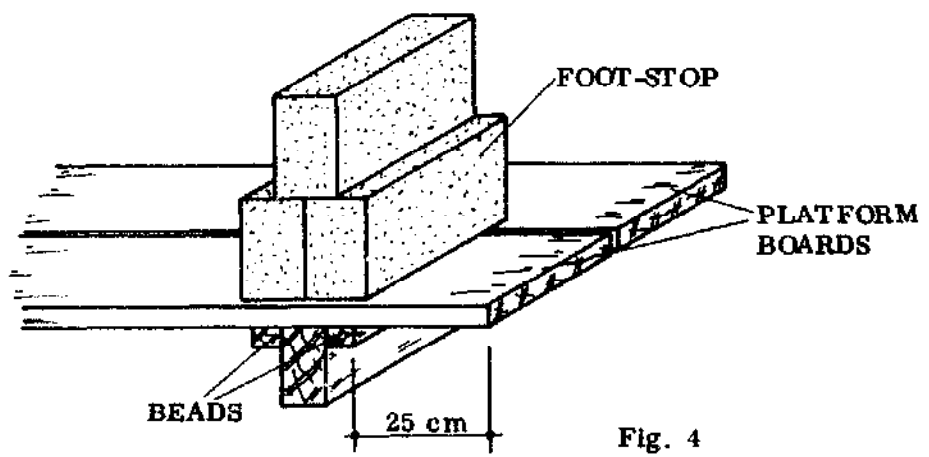

Fig. 4
- Pay attention when you lay the platform boards, so you don't create a scaffold trap. This is a place which looks safe but is not (Figs. 2 & 3). The free ends of the platform must not project by more than 25 cm past the ledge, and they should be blocked off by a foot-stop (Fig. 4).
- Beads can be attached to the bottom of the platform boards to prevent them from shifting along the ledges (Fig. 4), or the platform boards can be nailed directly to the ledges.